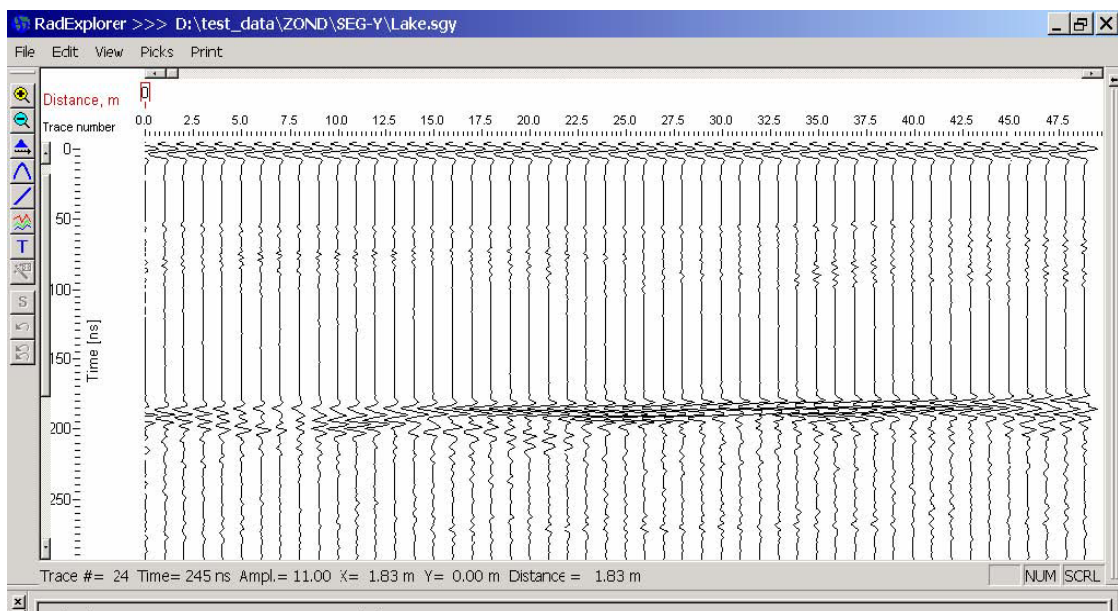

Fig. 5.4.3 – wiggle traces
- “WT” – wiggle traces (see Fig. 5.4.3);